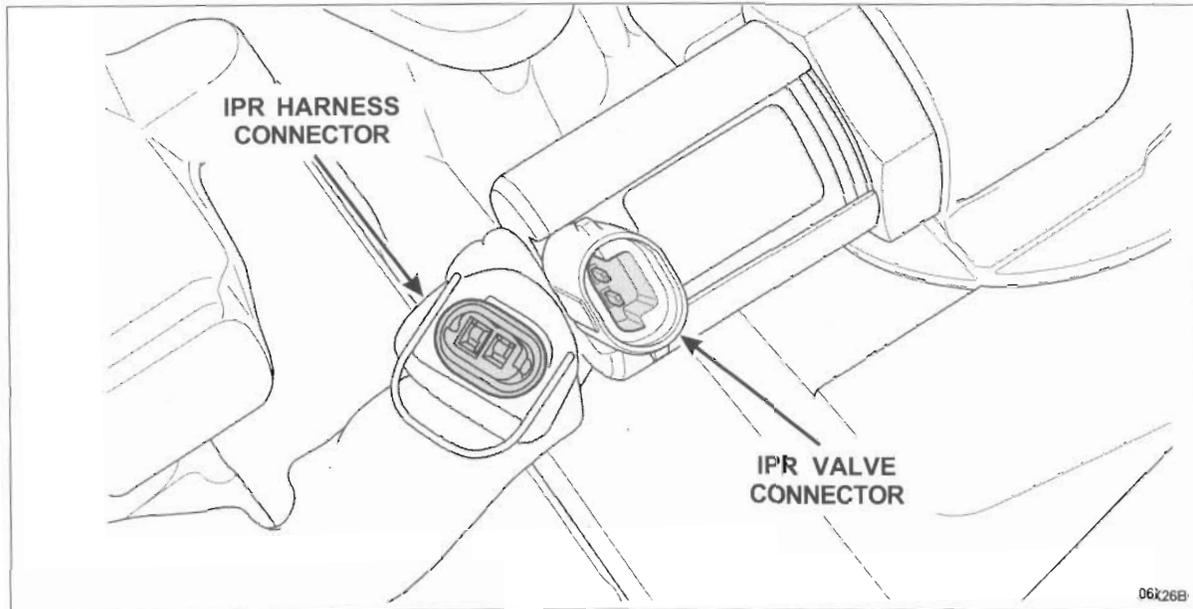

FIGURE 2
1. Disconnect the IPR electrical connector and inspect the harness connector and the IPR valve connector for the presence of corrosion. See Figure 2.